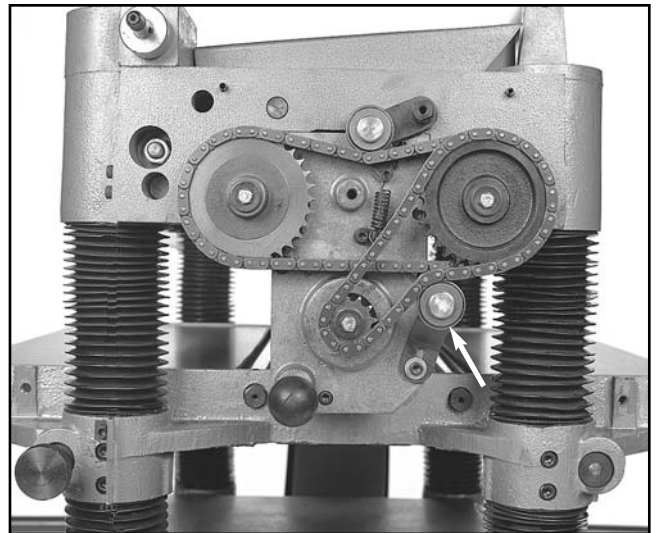

Figure 22. Chain tensioner adjustment.
3. Rotate the static chain tensioner up until the chain is tight. **See Figure 22.**